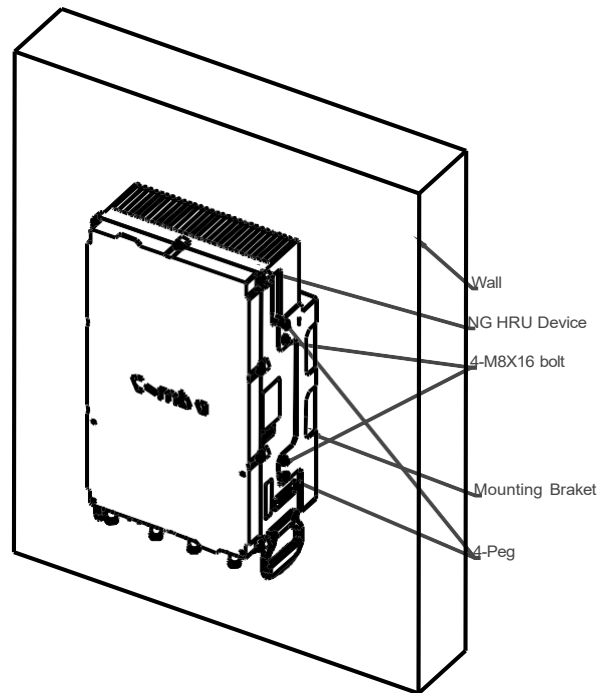

Figure 6 Wall Mounting (without Combiner)
Step3: Lift the device, align the four mounting screws with the slot of the mounting tray, and tighten the four M8 screws on the left and right sides to secure the device, as shown in Figure 6.